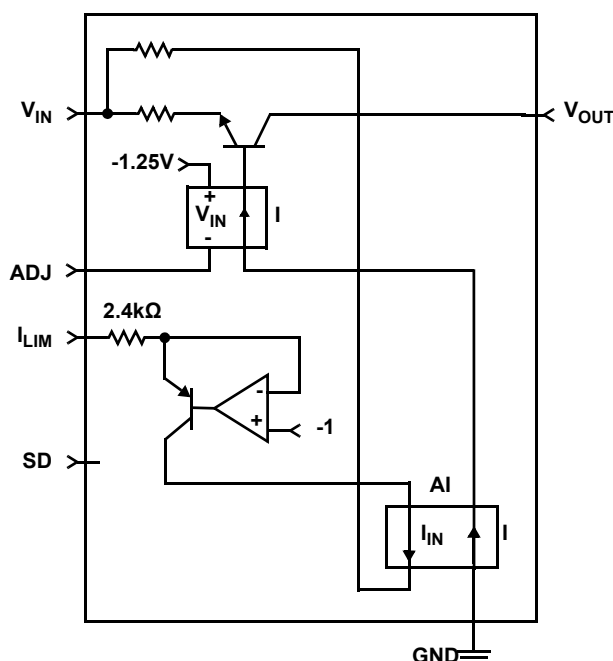

Figure 1. ISL72991RH Functional Diagram
The radiation hardened ISL72991RH is a low dropout adjustable negative linear regulator with an output voltage range of -2.25V to -26V. The device features a 1A output current capability, an adjustable current limit pin (ILIM), and a shutdown pin (SD) for easy on/off control. The ISL72991RH incorporates unique circuitry that enables precision performance across the -55°C to +125°C temperature range and post-irradiation. Datasheet specifications across the full temperature range include an internal reference voltage of -1.25V +40mV/-50mV (maximum), line regulation of  $\pm 25\text{mV}$  (maximum), and load regulation of  $\pm 15\text{mV}$  (maximum). The reference voltage is the ADJ pin to GND voltage. Figure 1 shows a functional diagram.